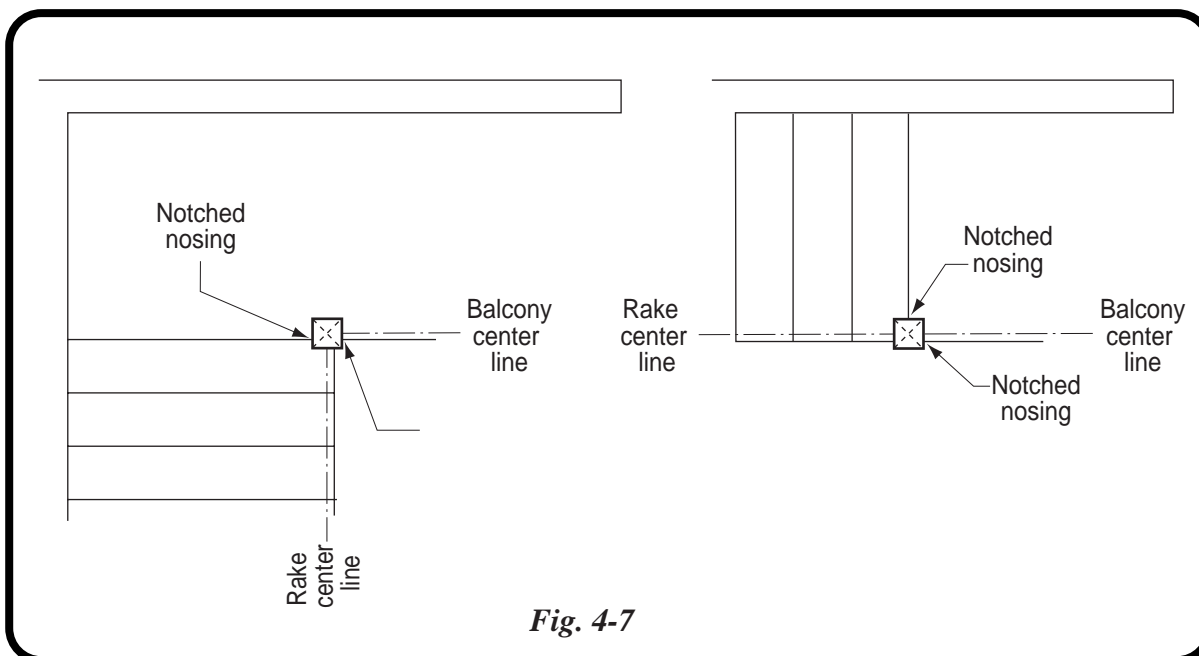

Fig. 4-7
1. Draw a square at the intersecting point of the rake rail centerline and the balcony rail centerline. Remember the center of the square must be the same as the intersecting point. Please note Fig. 4-7 here.